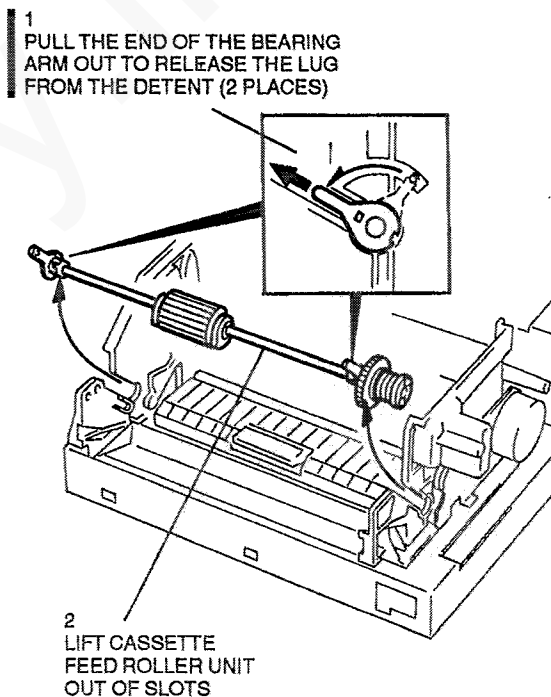

Figure 1. Cassette feed roller unit removal
2. (Figure 1) Remove the cassette feed roller unit.